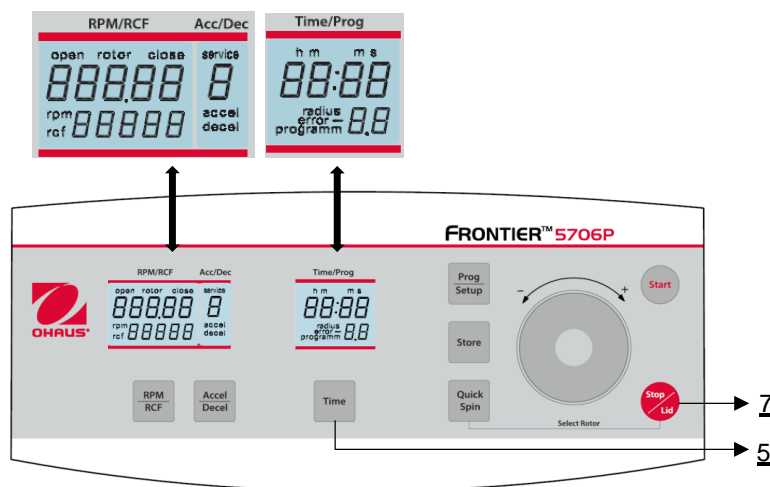

Figure 28
Open the centrifuge lid and shut off the main switch. Now switch on again the main switch. For approximately 3 seconds “5706P” will be shown in the display as well as the current software version. Press during this time the keys **“Time”** (5) and **“Stop/Lid”** (7) simultaneously. As a result, a display test is executed for approx. 3 seconds. All indicators will appear at the same time (see Figure 28).